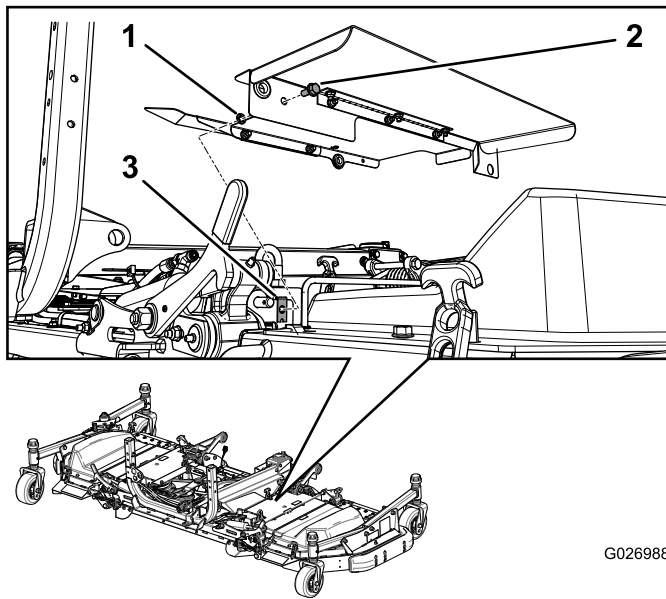

Figure 16
4. Install a bolt and a push nut to the shield (Figure 16).
5. Install the combined covers onto the deck (Figure 16).